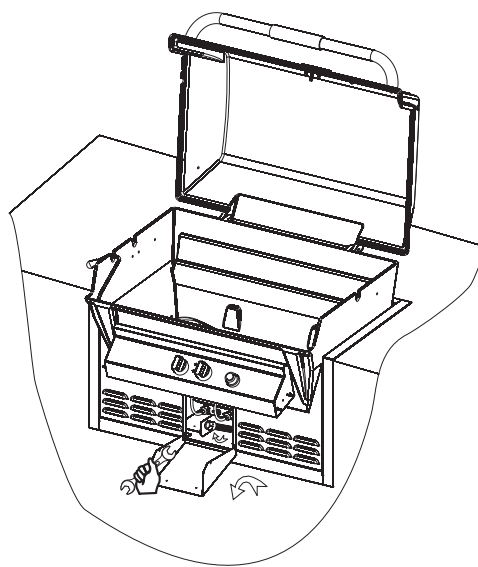

**Figure 6**
6. After insuring that all the contents are removed from the inside of the grill, install the grill in the BHA surround by slightly tilting the grill forward and placing it on the top of the support bracket. See Figure 6.